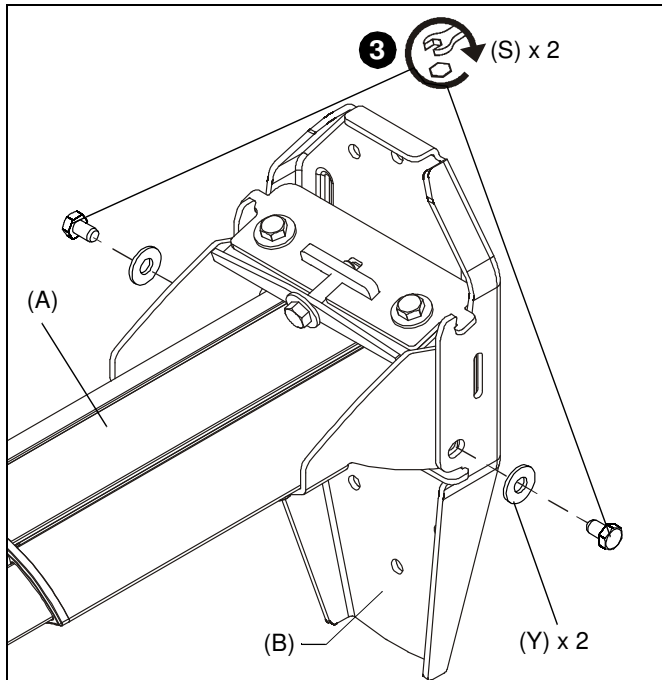

Figure 11
3. Fasten WM1XXS assembly (A) to wall bracket (B) using two 5/16 x 1/2" hex head cap screws (R) through two 5/16" washers (Y), the wall bracket and WM1XXS. (See Figure 11)